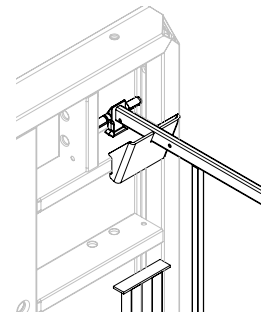
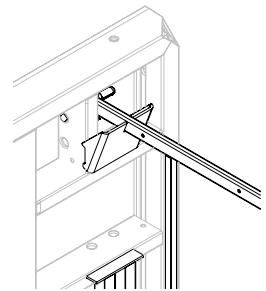

Fig. A13.20a
Fig. A13.20b
1. Hook in Scaffold Brackets (61) in the connecting holes of the panels. (Fig. A13.20). Installation is possible on the horizontal (Fig. A13.20a) and vertical (Fig. A13.20b) panel struts.